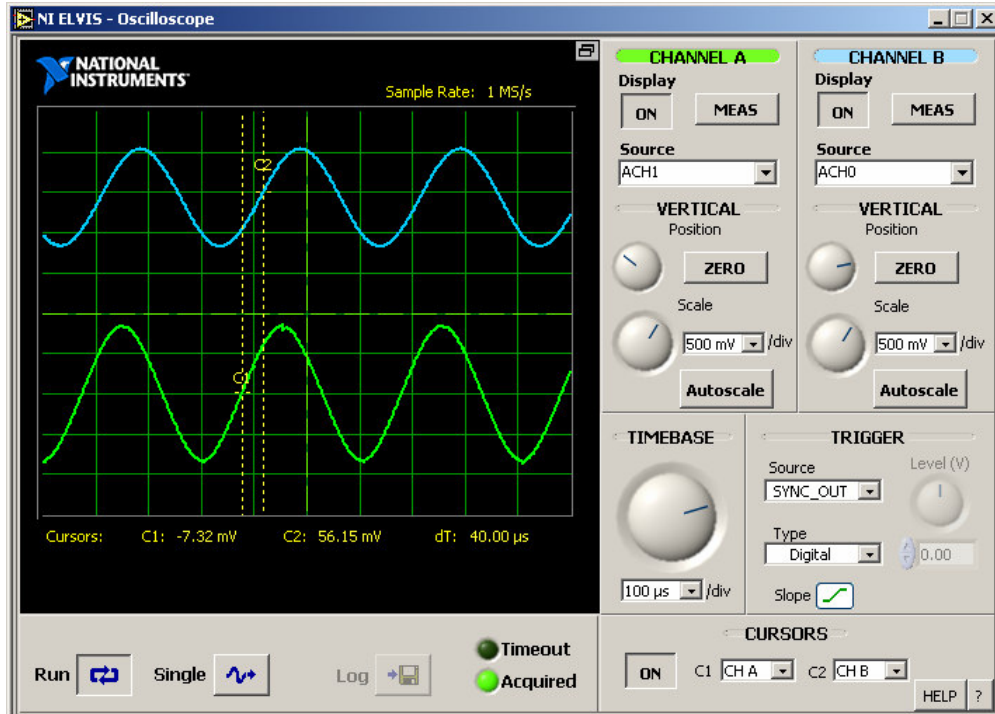

Fig. 14. NI Elvis Oscilloscope showing both input and output on two channels.
13. Cursors can also be used on the Oscilloscope SFP by clicking the Cursor button to ON. An example measurement using two cursors C1 and C2 to measure the phase shift is shown in figure 14.